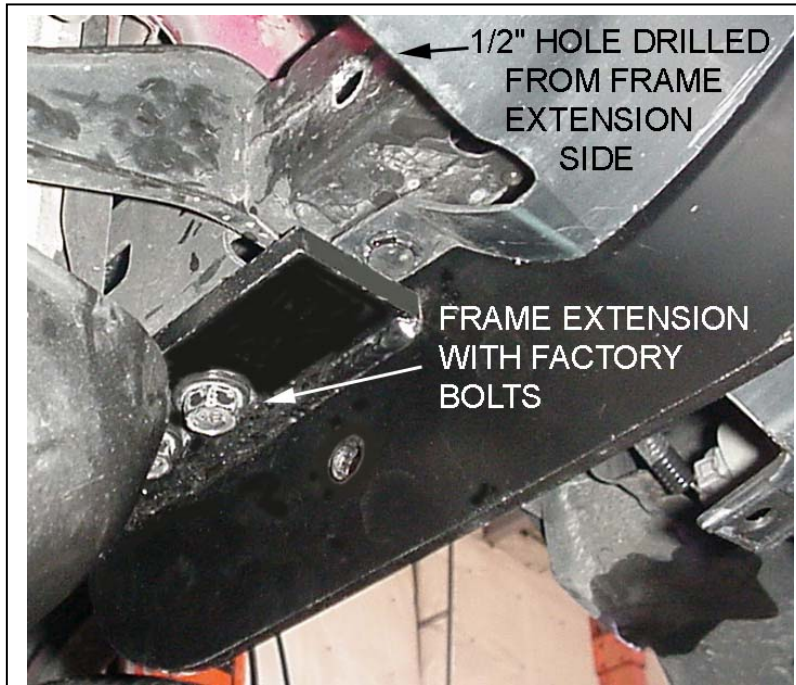

Figure 7. Left Frame Extension with Factory Bolts Installed
5. Install the frame extensions onto the bottom of the frame as shown in **Figure 7**. The braces (if installed) should pass through the openings in the lower bumper at a diagonal, behind the vertical bars. **Figure 9**. Leave the bolts slightly loose.